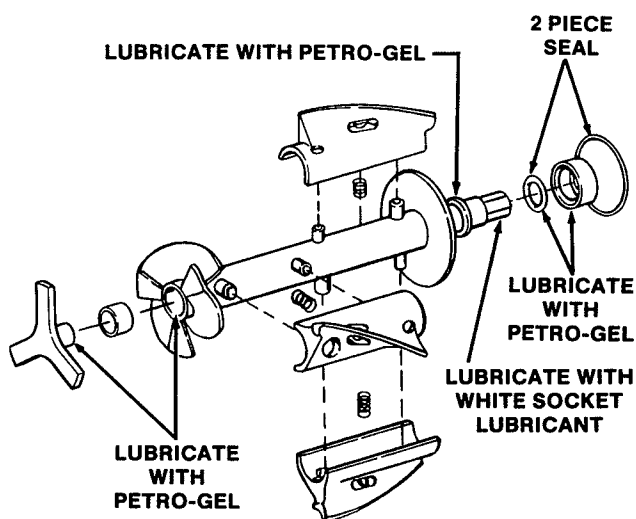

Figure 26. Exploded View of Auger
- D. Screw the springs onto the studs in plastic flights. **Springs must be screwed into the flights completely** to provide proper tension (Fig. 26).